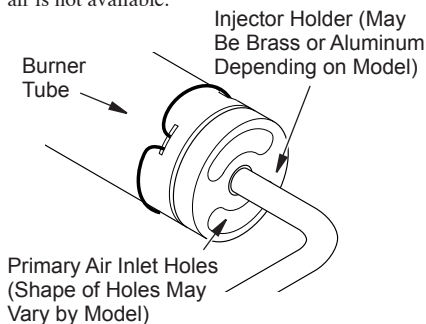

Figure 35 - Injector Holder On Outlet Burner Tube
2. Inspect burner, pilot, and primary air inlet holes on injector holder for dust and dirt (see Figure 35).